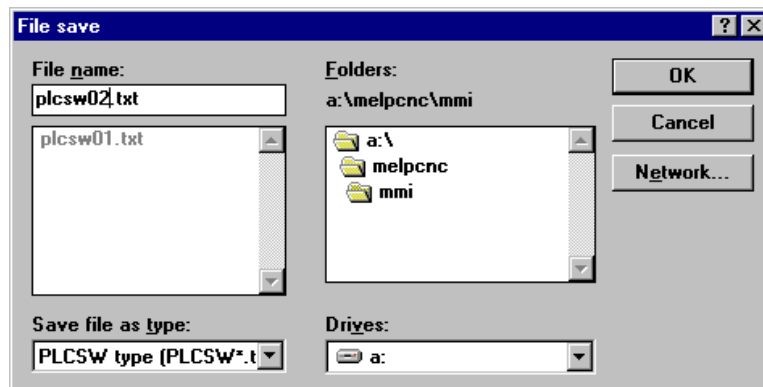

Fig. 4-5 File save window
- (1) Click on the [File] - [Save] commands. The File save window (Fig. 4-5) will open.